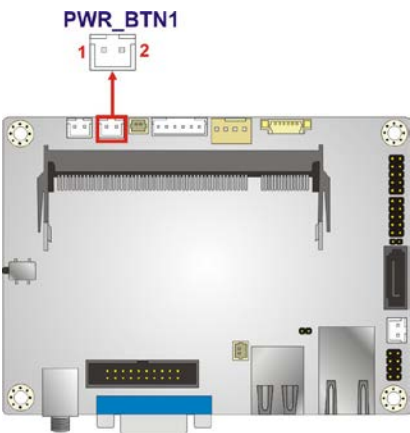

Figure 3-14: Power Button Connector Location
- CN Location: See Figure 3-14